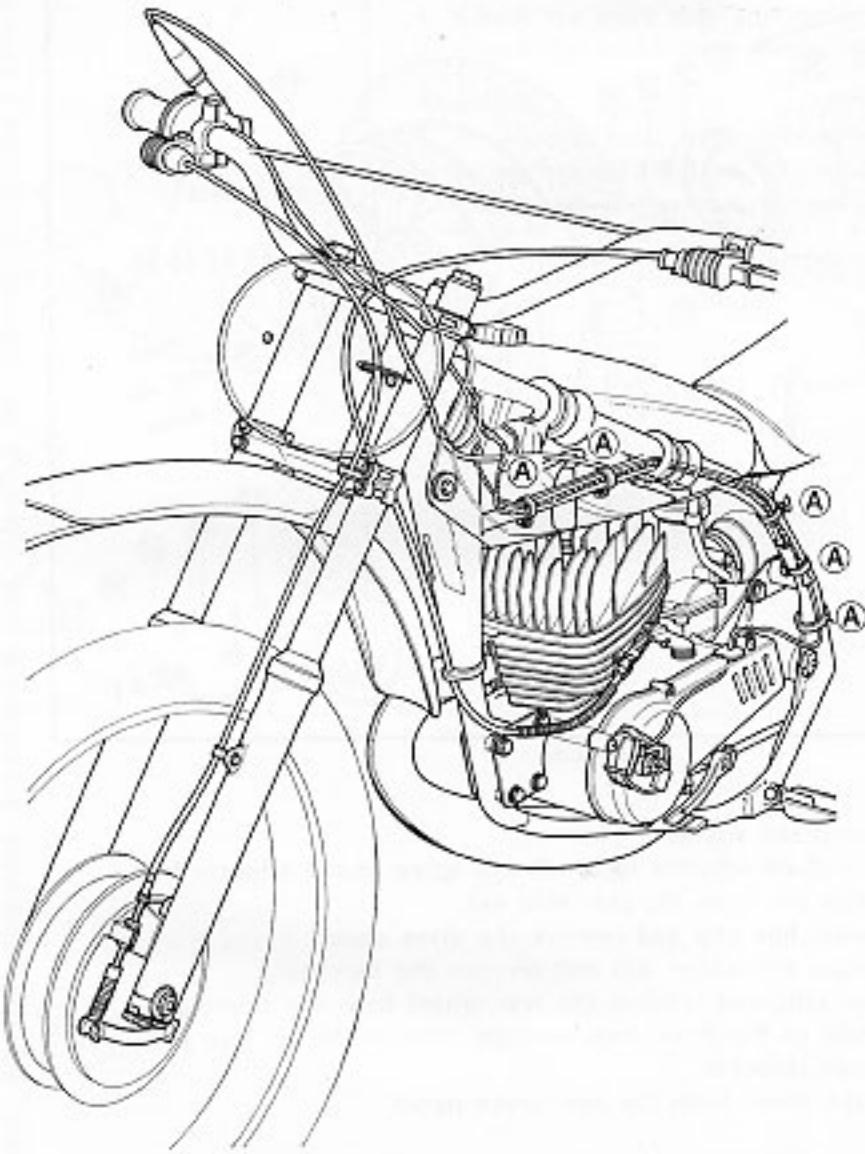

Fig. 5-1
Connect wiring and cables to the frame with the clamps at position ④ in Fig. 5-1.